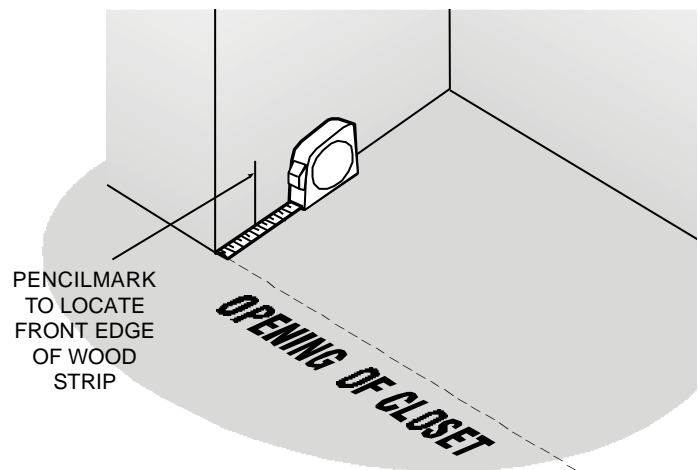

Figure 2
- Find the correct offset measurement using the **Offset Measuring Table** on page 3 (**B Measurement**) for your particular installation. From the front edge of closet opening inward, measure using dimension from table and make a pencil mark on wall. Do this on both walls, i.e., right and left walls (See Figure 2).